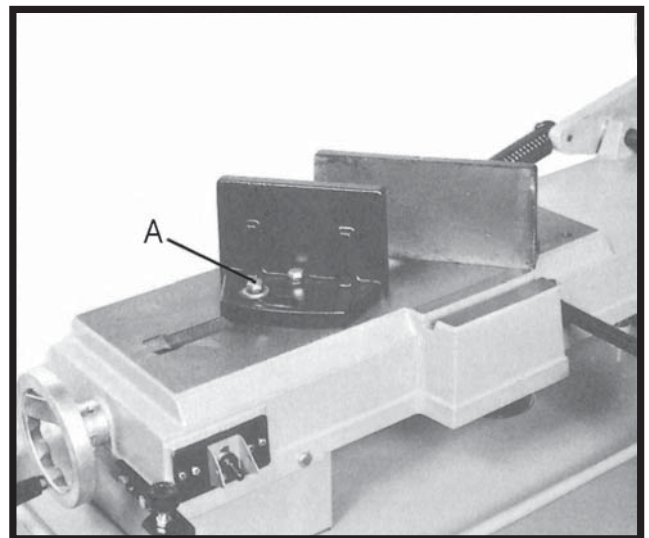

Fig. 10
2. Position vise and re-install as pictured in Fig. 10. Pay particular attention to bolt hole location.
4. Adjust movable vise parallel to fixed vise by loosening bolt (A, Fig.10), adjusting to parallel, and tightening bolt.